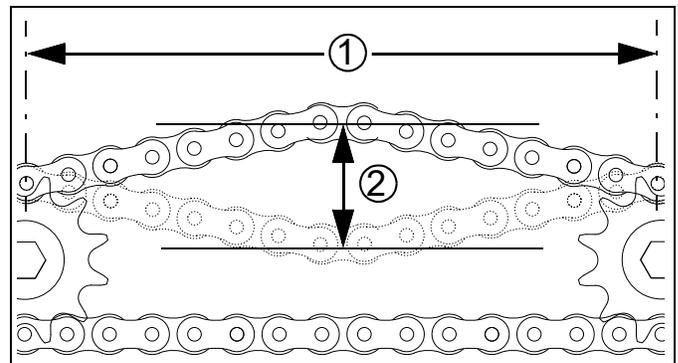

Figure 29
**Refer to Figure 29, which, for clarity, greatly exaggerates slack, and omits the idlers.**
1. Measure the span ① for allowable slack: Locate the longest span of each chain (usually the span which does not run through the idlers).